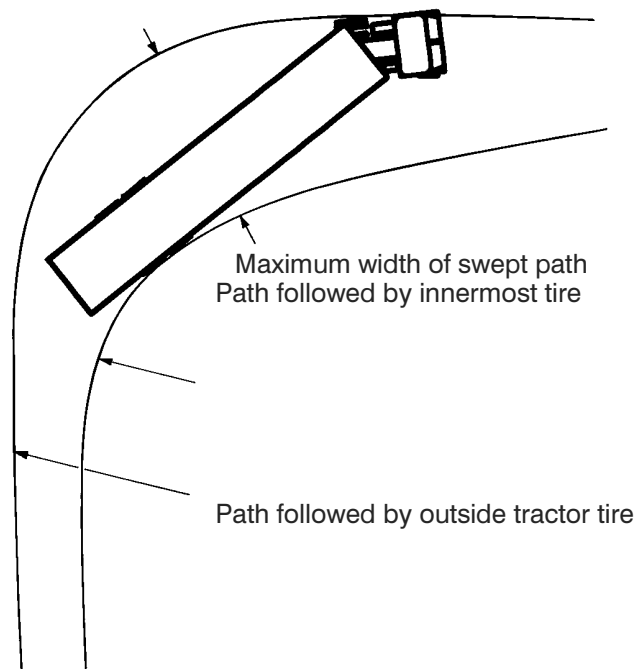
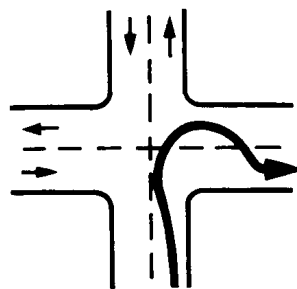

Figure 6-4
Figure 6-5
When a vehicle goes around a corner, the rear wheels follow a different path than the front wheels. This is called offtracking or "cheating." Figure 6-4 shows how offtracking causes the path followed by a tractor-semi to be wider than the rig itself. Longer vehicles will offtrack more. The rear wheels of the powered unit (truck or tractor) will offtrack some, and the rear wheels of the trailer will offtrack even more. If there is more than one trailer, the rear wheels of the last trailer will offtrack the most. Steer the front end wide enough around a corner so the rear end does not run over the curb, pedestrians, other vehicles, etc. However, keep the rear of your vehicle close to the curb. This will stop other drivers from passing you on the right. If you cannot complete your turn without entering another traffic lane, turn wide as you complete the turn (Figure 6.5). This is better than swinging wide to the left before starting the turn because it will keep other drivers from passing you on the right. If drivers pass on the right, you might collide with them when you turn.
5. Why should you turn like it shows in Figure 6-5?